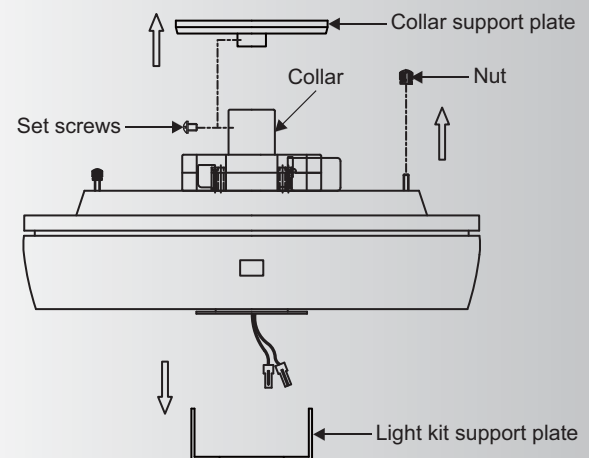

Fig. 7
Step 5. Remove the two set screws from the collar support plate, keep the two set screws for future use and discard the collar support plate. Remove the light kit support plate that from the fan motor assembly and discard it. (Fig. 7)
Step 6. Remove the two nuts that from the motor housing and keep the two nuts for future use. (Fig. 7)